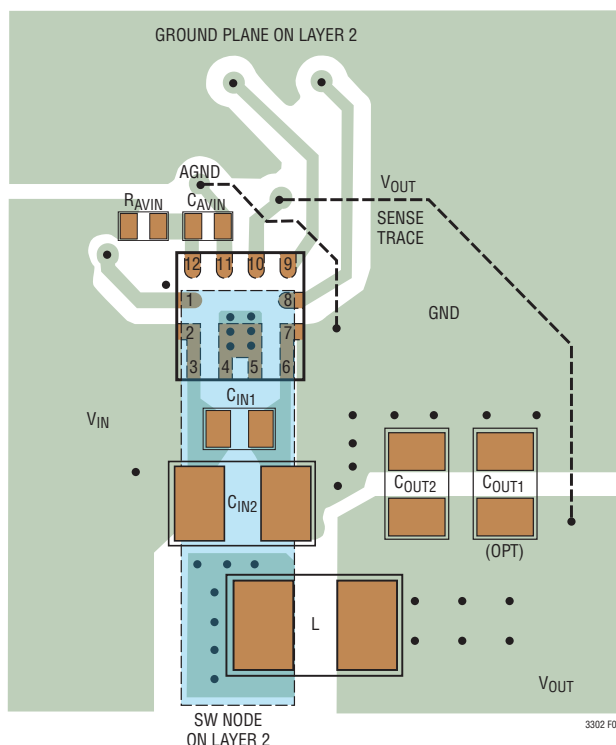

Figure 3. Recommended PCB Layout
(C_{OUT}) at the load. Any drop in the high current power ground return path is compensated. The AGND node carries very little current and, therefore, can be a minimal size trace. Place a small analog bypass 0201 or 0402 ceramic capacitor as close as possible to the LTC3302 directly on the traces leading from AV_{IN} (Pin 12) and AGND (Pin 11). All of the signal components, such as the FB resistor dividers, should be referenced to the AGND node. See the recommended PCB Layout (Figure 3) for more information.
The LTC3302 is a high performance IC designed for high efficiency and fast transient response. For optimal results carefully consider the layout of the PCB board and follow the recommendations below to ensure proper operation. See Figure 3 for a recommended PCB layout.
- See C_{IN1} and C_{IN2} placement in Figure 3, the recommended PCB layout.